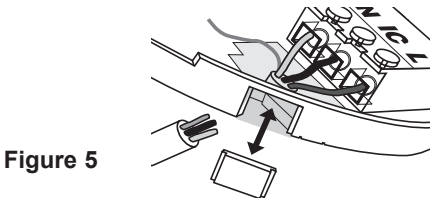

Figure 5
- (b) the mounting plate has a removable section, take it out to interface directly with 25mm conduit as shown in **Figure 5**. If interfacing to 16mm conduit carefully cut around the marked section, leaving the top intact and replace the section. (If you are not using surface wiring, the removable section must be left in place for electrical safety reasons).